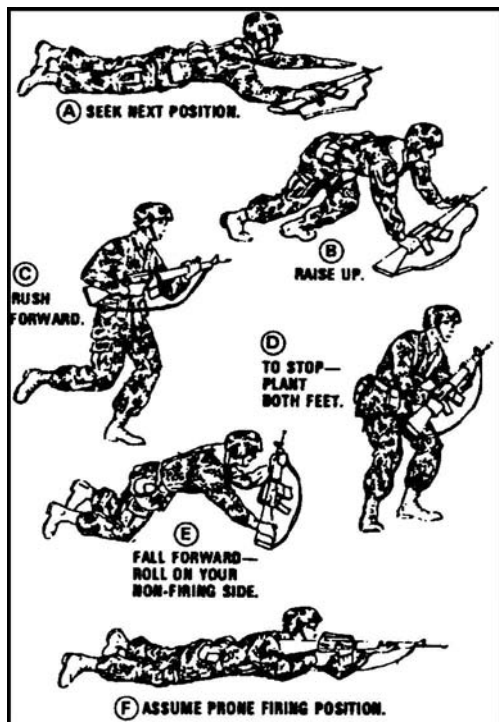

Figure 071-326-0502-4. Rush
- (1) Pushing both arms forward while pulling your right leg forward.
- (2) Pulling with both arms while pushing with your right leg.
- (3) Continuing this push-pull movement until you reach your next position, changing your pushing leg frequently to avoid fatigue.
6. When enemy fire allows brief exposure, use the rush to move from one covered position to another (figure 071-326-0502-4).